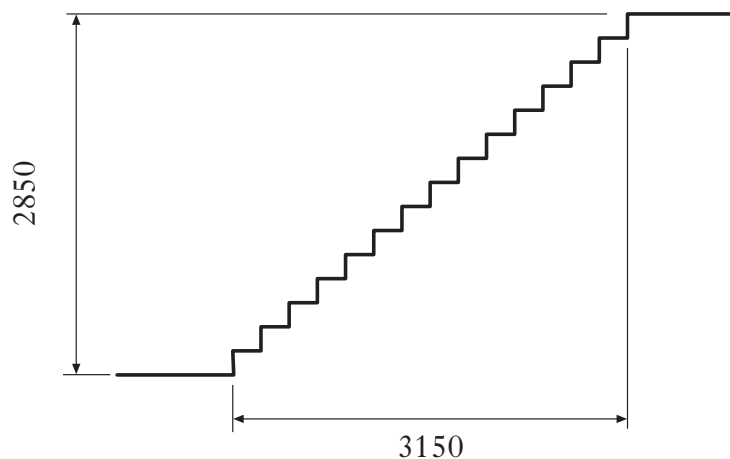

Figure Q6(b)
- (b) **Figure Q6(b)** below illustrates a section through a private stair in a dwelling house. Using the information given: